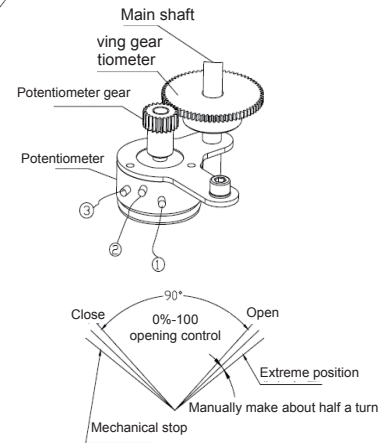

Fig. 18
7.2 POTENTIOMETER (FIG. 18)
The potentiometer provides feedback signal output in the actuator. Three output terminals are provided, in which pin ② is connected to the wiper of the potentiometer (see Fig. 18). Pin ① is connected to the end where the resistance between the wiper is decreasing when the actuator is in the opening operation. Pin ③ is connected to the end where the resistance between the wiper is decreasing when the actuator is in the closing operation. (ATTENTION: The potentiometer shall avoid resistance zero-crossing or jumping.)